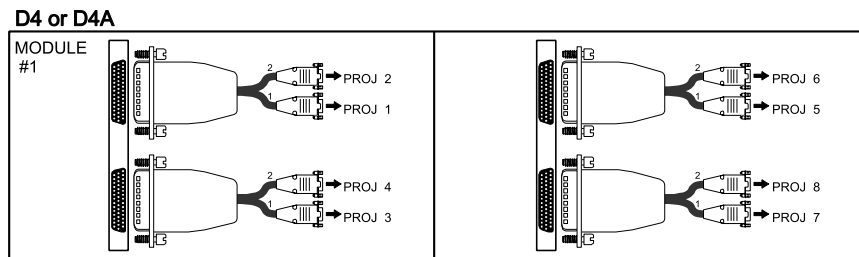

Figure 3-6 Connecting Displays
1. Connect the single end of each of the two dual VGA cables to the display module connectors on the rear panel. See Figure 3-6.